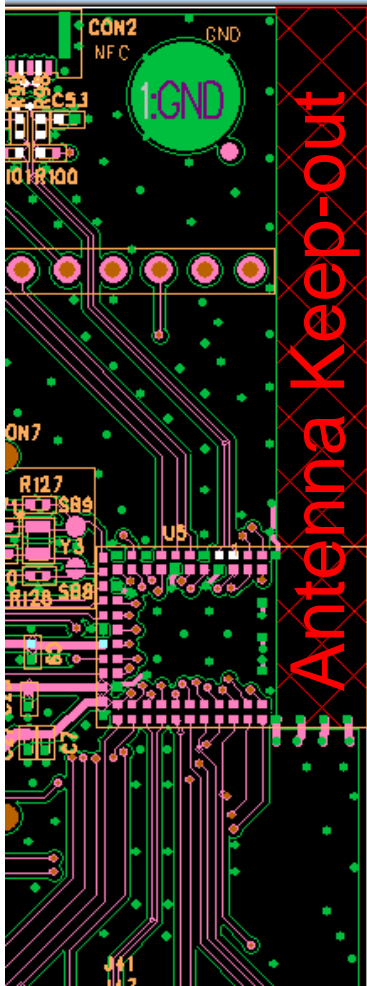

Figure 14: PCB trace Antenna keep-out area (shown in red), corner of the BL654 development board for the 451-00001 module.
- The BL654 development board has the 451-00001 module on the edge of the board (not in the corner). The antenna keep-out area is defined by the BL654 development board which was used for module development and antenna performance evaluation is shown in Figure 14, where the antenna keep-out area is ~5 mm wide, ~39.95 mm long; with PCB dielectric (no copper) height ~1 mm sitting under the 451-00001 PCB trace antenna.
- Host PCB land pattern and antenna keep-out for the BL654 applies when the 451-00001 is placed in the edge of the host PCB preferably in the edge center. Figure 14 shows an example.